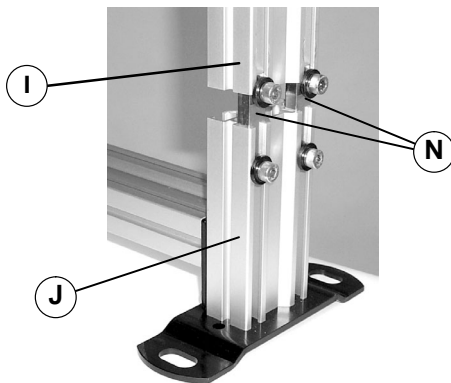

Figure 5
6. Slide stand leg (I of Figure 5) over both tube joining bars (N) until it is resting on leg of base assembly (J).